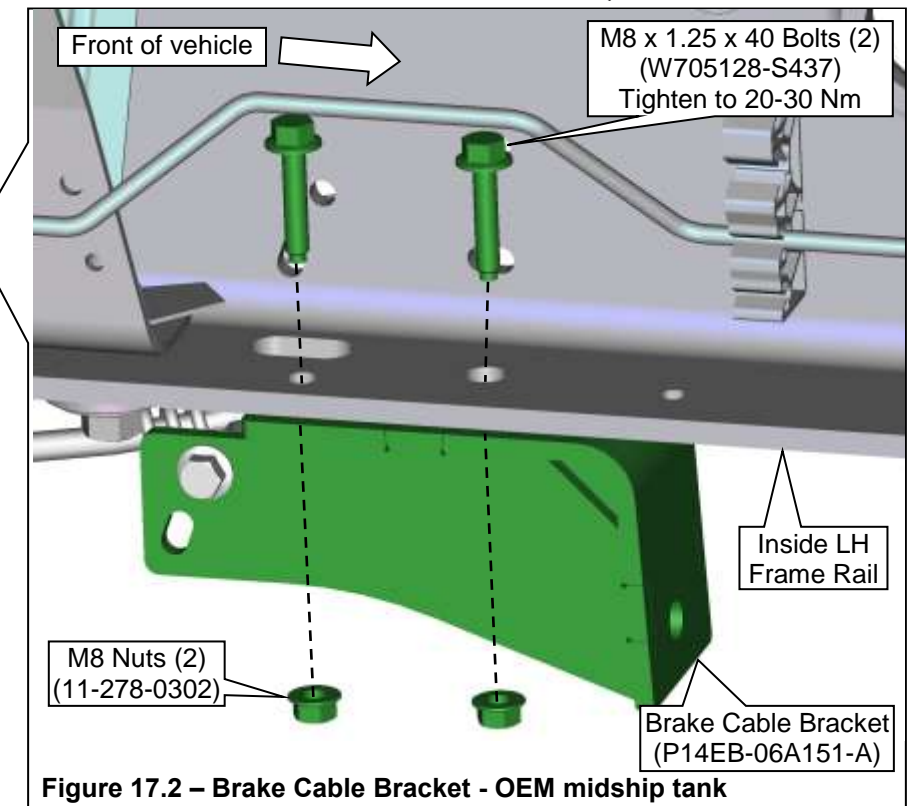

Figure 17.2 – Brake Cable Bracket - OEM midship tank
2. From the inside of the frame rail, install the 2 bolts down through the existing holes in the frame rail. **Figure 17.2.**